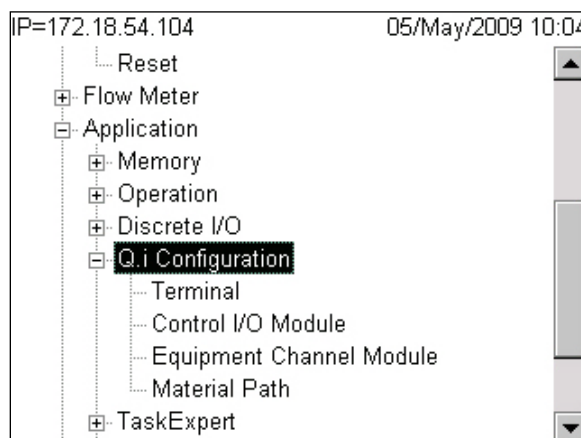

Figure 1-16: Setup Menu Tree, Q.i Configuration Branch Expanded
Q.iMPACT parameters can be viewed, set up and modified from the IND780 Q.iMPACT terminal's front panel. The setup menu tree is shown in Figure 1-16, with the **Q.i Configuration** branch expanded.